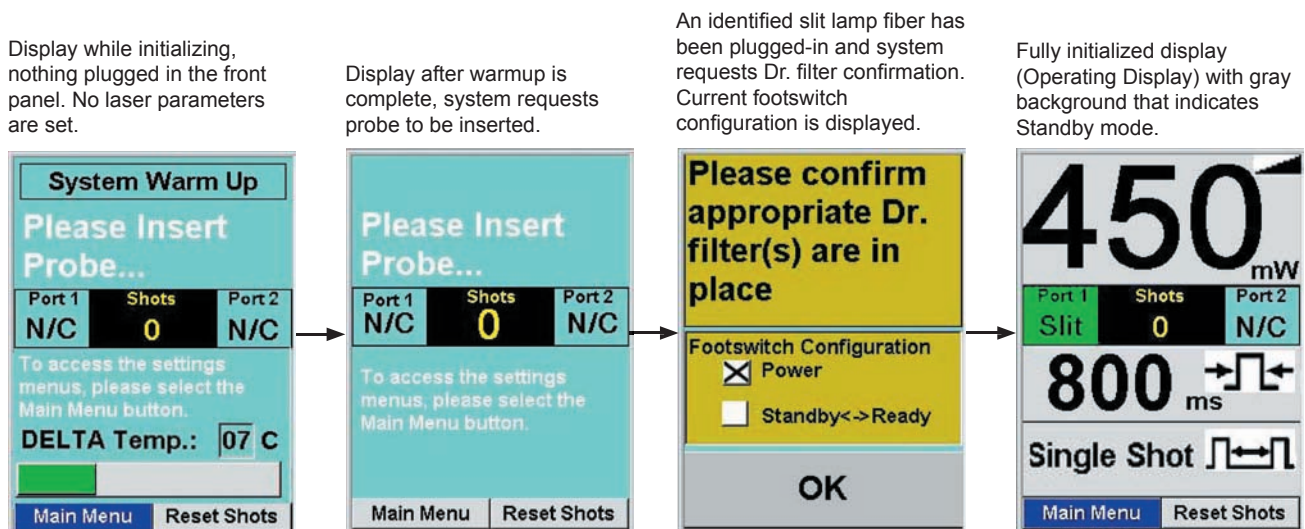

Figure 3-2 Display During Initialization
3.1 Turn the key to the ON (horizontal) position. Figure 3-2 shows the sequence of screens displayed during initialization.